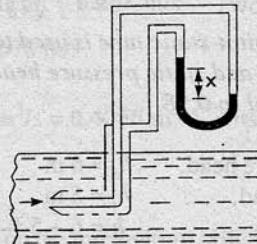

Fig. 6.17
4. Pitot-static tube, which consists of two circular concentric tubes one inside the other with some annular space in between as shown in Fig. 6.17. The outlet of these two tubes are connected to the differential manometer where the difference of pressure head 'h' is measured by knowing the difference of the levels of the manometer liquid say 'x'. Then $h = x \left[\frac{S_g}{S_o} - 1 \right]$.